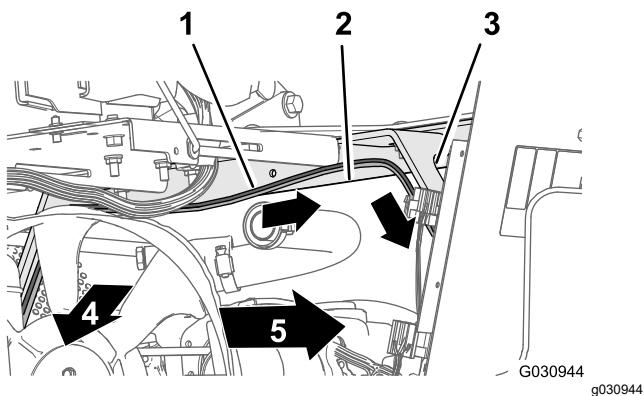

**Figure 109**
1. Route the 165 cm (65 inch) branch of the wire harness up and into the rear part of the engine compartment, along the right support for the engine shroud—forward of the duct that connects the air filter and the engine (Figure 109).